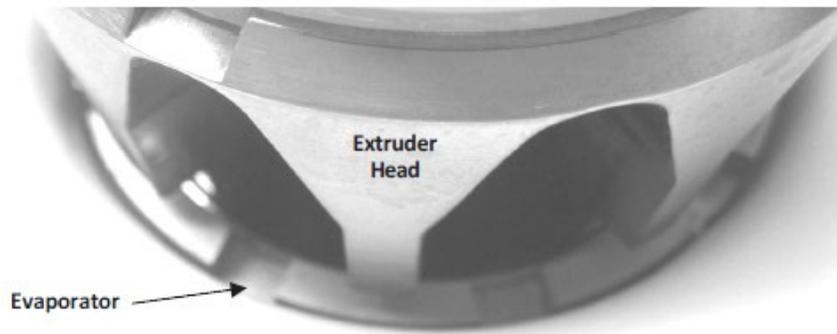

Figure 4.
2. When the auger is lowered into the evaporator, rotate the auger to engage the motor drive shaft, as shown in Figure 4.